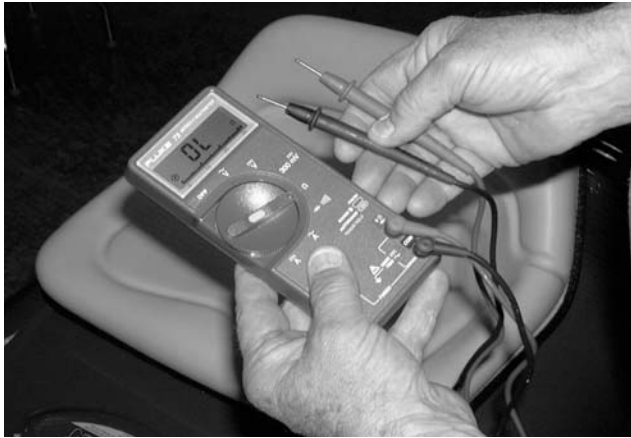

Figure 8-84.
- Place the multimeter in the OHM's mode until instructed to change modes. See Figure 8-84.